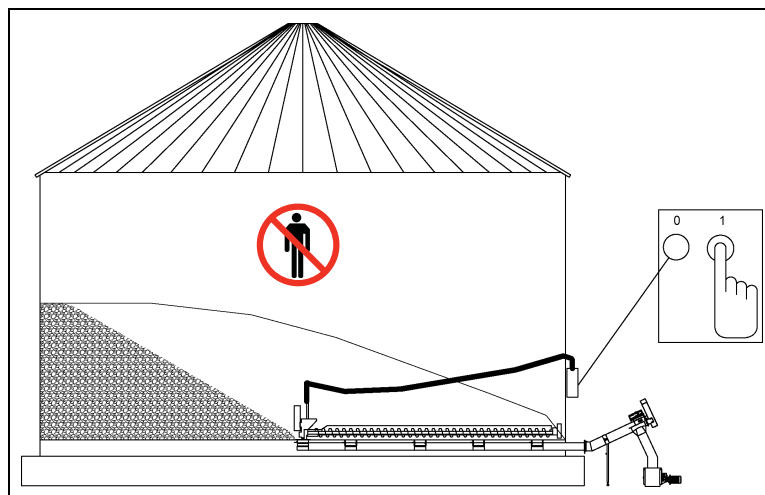

Figure 6J
10. Start sweep. (See Figure 6J.)